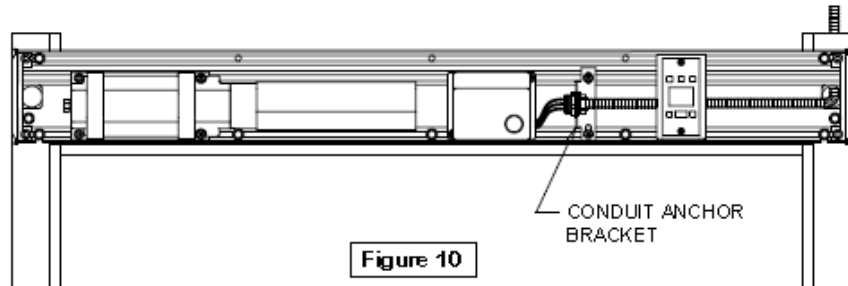

Figure 10
- 2) Attach the conduit connector to anchor bracket on operator (Figure 10).